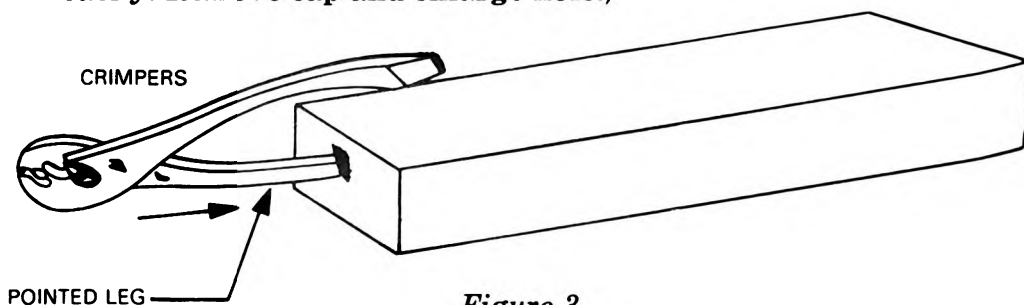

Figure 3.
3. To prime a demolition block without a threaded cap well (figure 3):